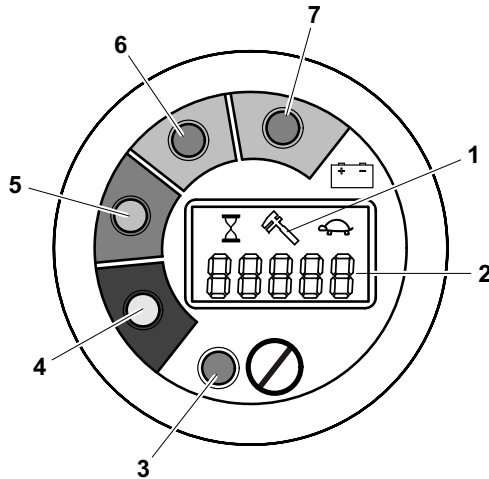

Figure 3-5. MDI Indicator
A **wrench icon (item 1)** will display on the **Diagnostic Trouble Code LCD display (item 2)**. (See Figure 3-5.)
- A three to five digit DTC code will display on the **Diagnostic Trouble Code LCD display (item 2)**, below the wrench icon.
- The system distress **LED indicator (RED) (item 3)** lights up solid on the MDI when a DTC Code is displayed on the LCD display